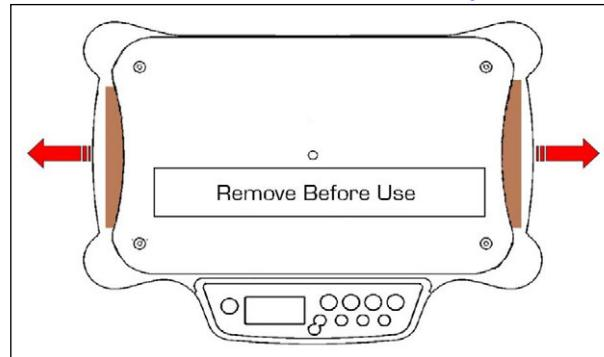

Figure 2-2. Angular Transport Tab Location
2. Remove the two angular transport tabs from the scale as shown in Figure 2-2.